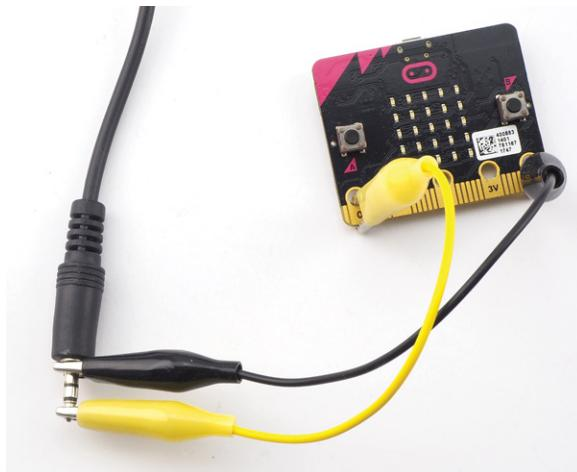

Figure 2-1: Alligator clips attached to headphones
Perhaps the easiest way to get sound from your micro:bit is to use alligator clip cables to connect the micro:bit to a pair of headphones (see Figure 2-1).
The other two connectors are the audio signals for your left and right ears. If you want to hear sound in both ears, place the alligator clip so that it spans both of the two connectors on the end. You can also attach the alligator clip to the very tip for sound in just one ear (as shown in Figure 2-1). Either way, clip the other end of the alligator clip to any of the three micro:bit pins: 0, 1, or 2. Micro:bit users traditionally use pin 0 for audio.
1. Connect the speaker using one of the methods shown in Figures 2-1 to 2-4. Then plug your micro:bit into your computer.
1. Connect the speaker using one of the methods shown in Figures 2-1 to 2-4.